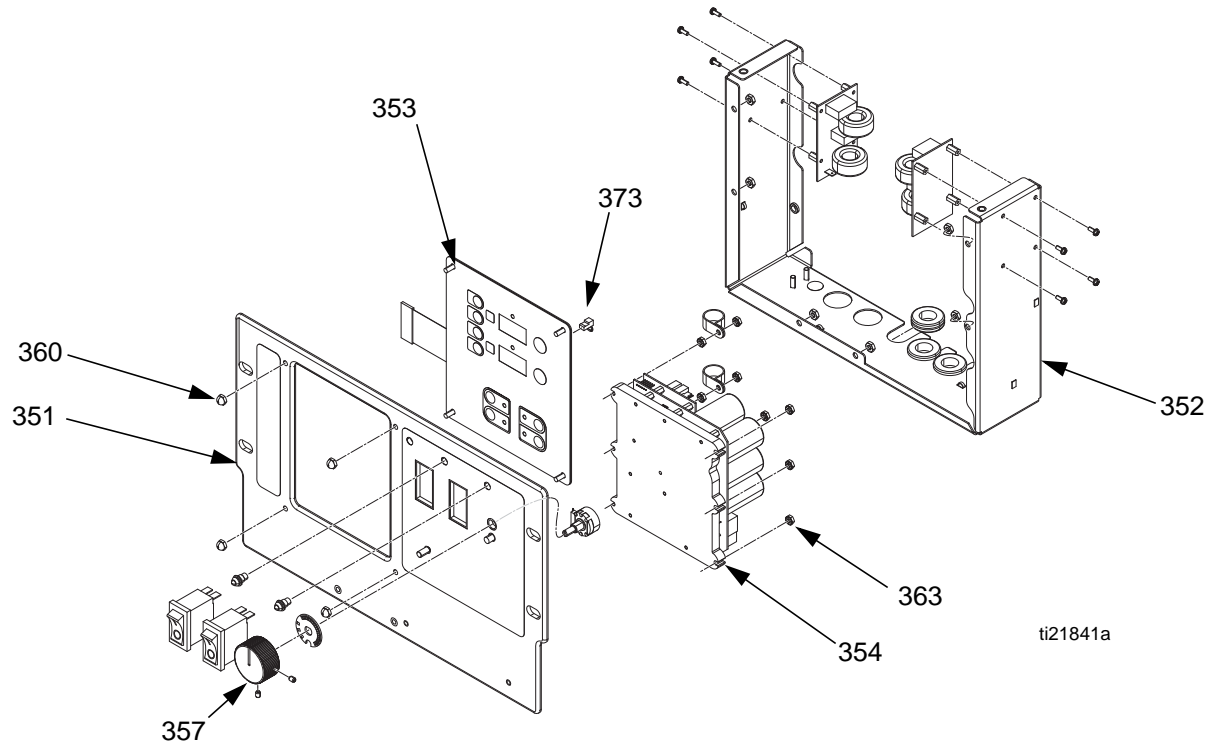

FIG. 10: Control Panel
2. Remove screws (21) and display cover (26).
4. Disconnect main display cable (81) from upper right corner of temperature display (353). See FIG. 10.
5. Remove jumper (373) from back of display (353). Set aside and install jumper on new display.
6. Disconnect ribbon cable(s) (R) from back of display; see FIG. 10.
7. Remove nuts (360) from plate (351).
8. Disassemble display (353), see detail in FIG. 10.
9. Reassemble in reverse order, see FIG. 10. Apply medium strength thread sealant where shown.
2. Remove access cover (26) on back of cart to expose control board (354).
3. Disconnect all cables and connectors from board (354). See Table 8, page 46.
4. Remove six nuts (363) and remove board from control board (354). See FIG. 10, page 44.